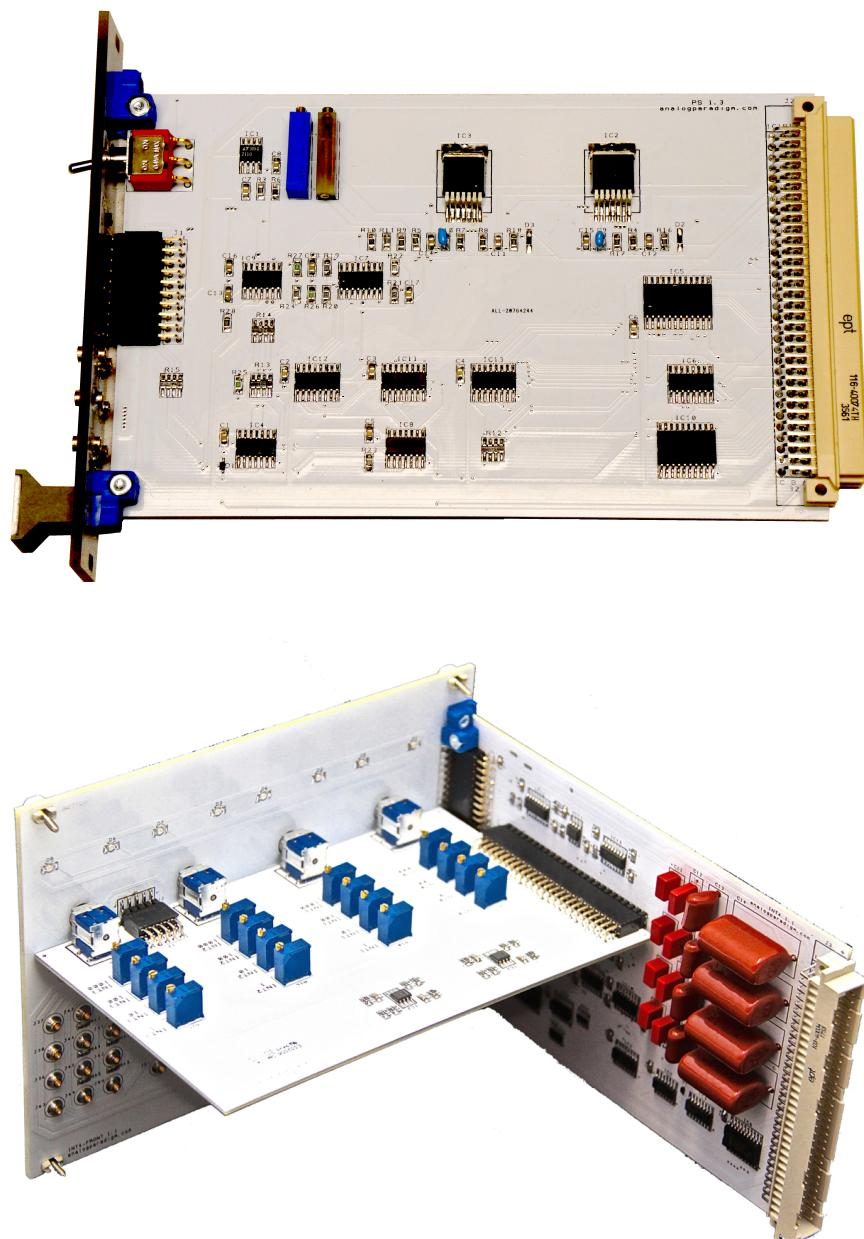

Figure 1.1: Typical computing modules
The Analog Paradigm “Model-1.1” analog computer is a modern modular analog computer. It is ideally suited for universities and research labs. This system was developed from 2015 to mid 2019 and makes extensive use of modern integrated circuits which results in low power consumption and small size. Figure 1.1 shows two typical modules as an example of the technology employed: On the top the precision voltage reference (PS) can be seen, while the bottom picture shows the quad-integrator module INT4.